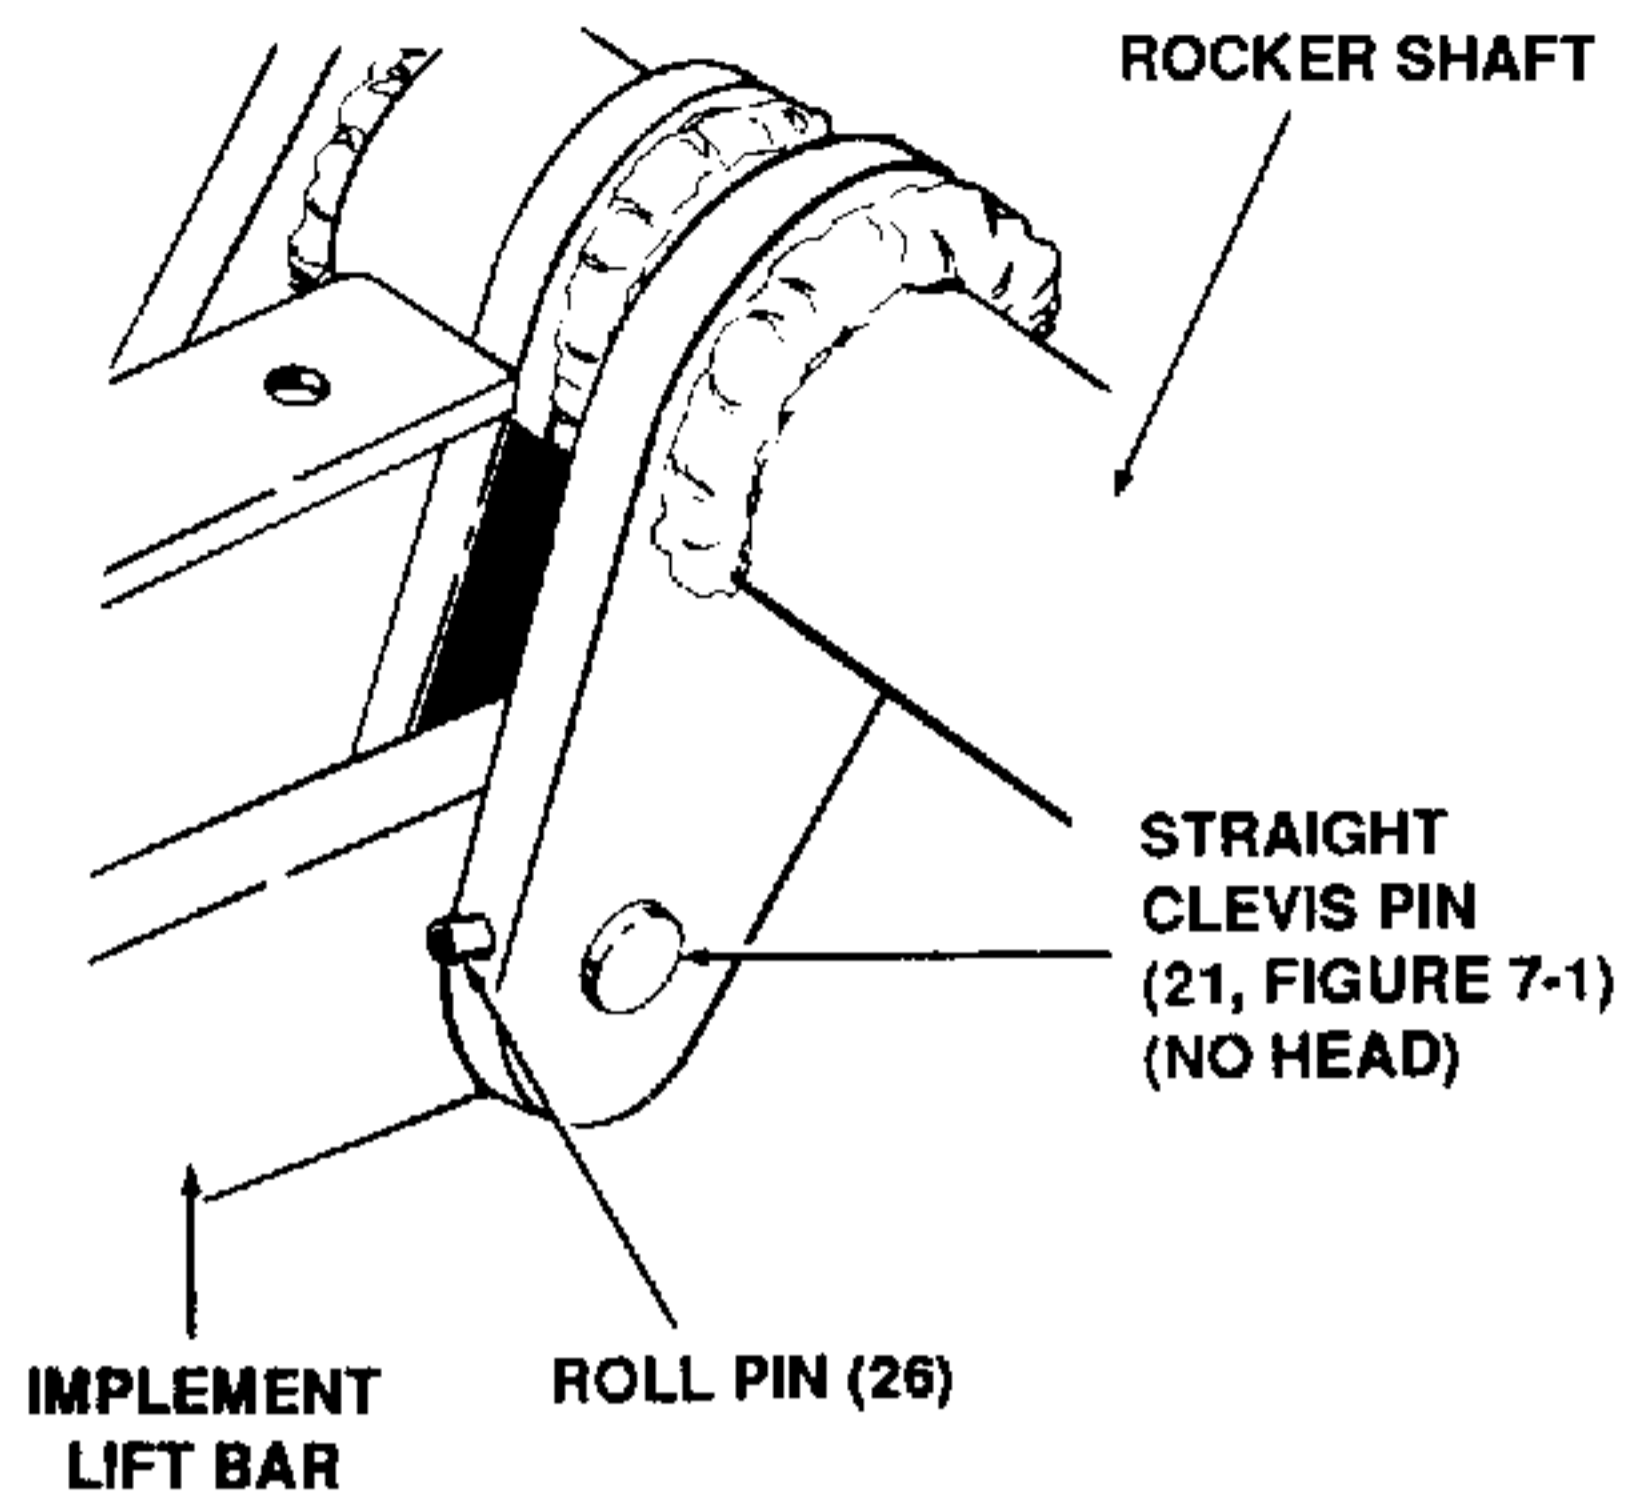

Figure 7-15. Securing Implement Lift Bar.
- d. Attach rear end of implement lift bar to rocker shaft with straight unheaded clevis pin (21) and roll pin (26). Refer to Figure 7-15.